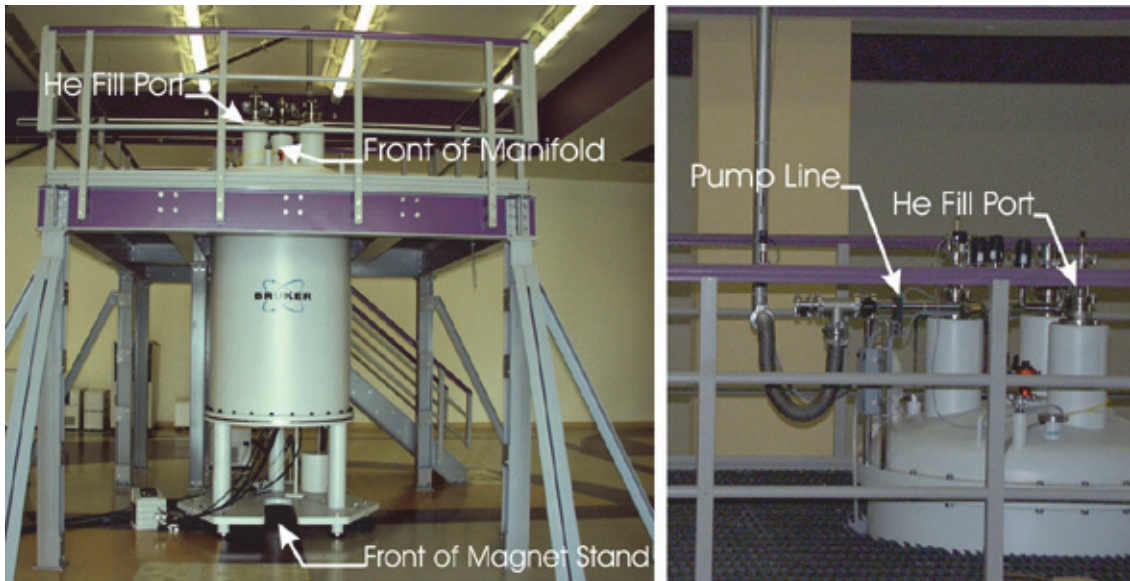

Figure 9.2: Magnet Orientation
- **Magnet pump line:** The magnet pump line connects to the back of the manifold (see [Figure 9.2 \[▶62\]](#)).